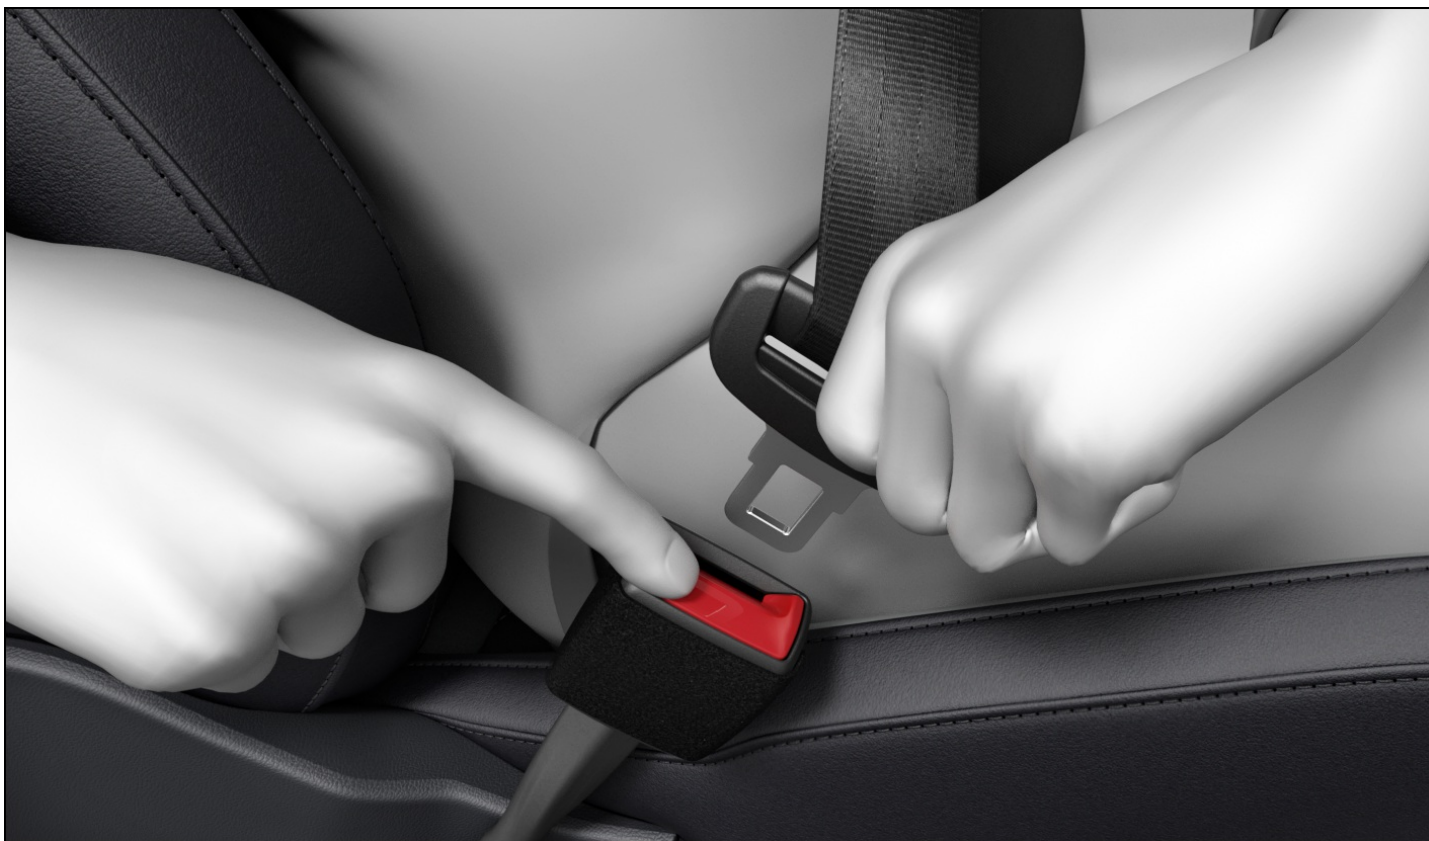

Fig. 25 Releasing the buckle tongue from the safety belt buckle.
1. Press the red button in the safety belt buckle *fig. 25*.